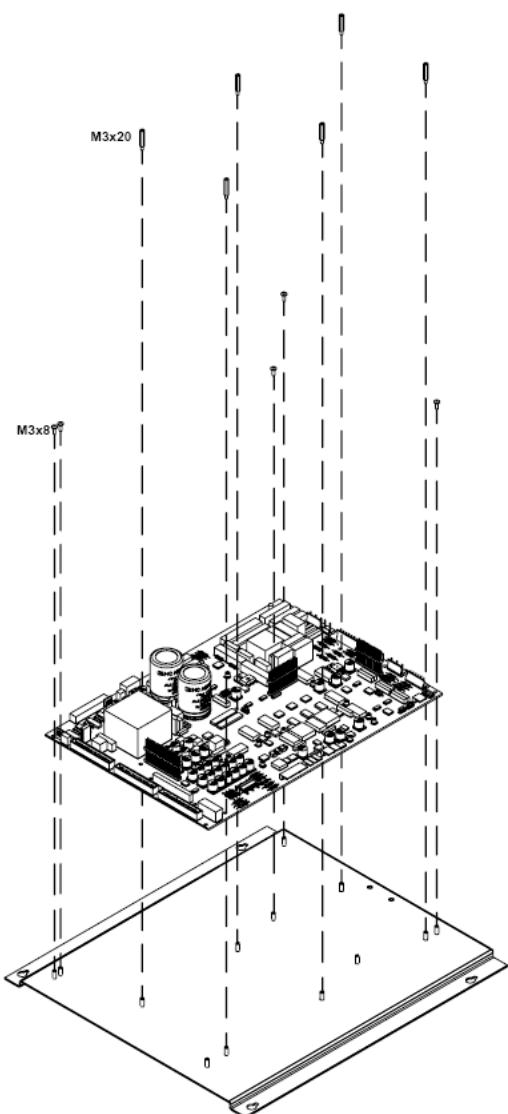

Figure 6.6 (b). Disassembly of the Power Board.
- 4) Connect the power board wiring. (*figure 6.6(a)*).